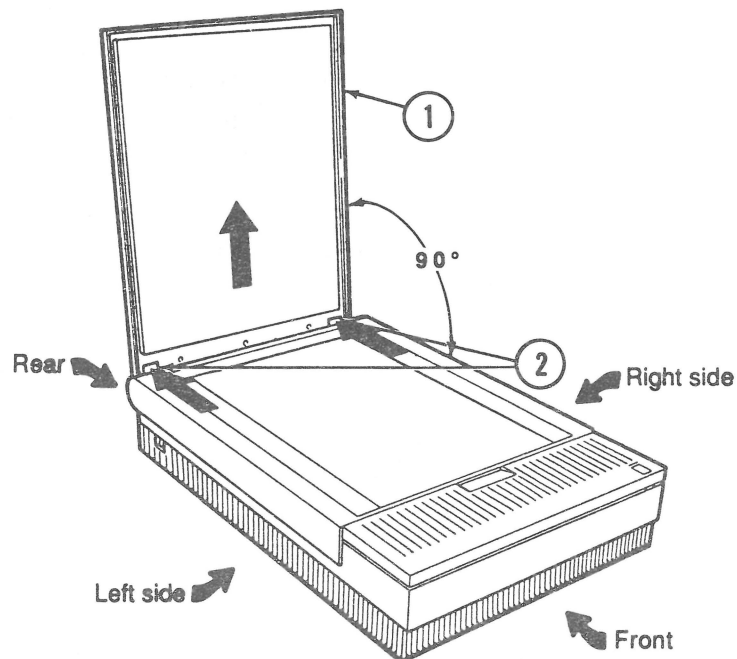

FIGURE 1
The following take-apart procedures were done using references to left side, right side, front, or back. It is important that you use the same reference when performing these procedures. Figure 1 below has been labeled to reflect the orientation used for most of the graphics used in these procedures. If a view is changed or reversed, the graphic will show the new orientation.
1. Lift the lid up all the way to 90° (Figure 1, #1).
2. Press the two indented clips near the bottom of the lid on both sides (Figure 1, #2). As you press in the clips, gently pull up on the lid and remove it.